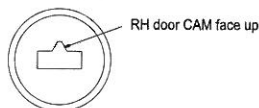

Figure 2
A. For RH door, to use the flat head screwdriver to turn the breach of CAM face up. (Figure 2)